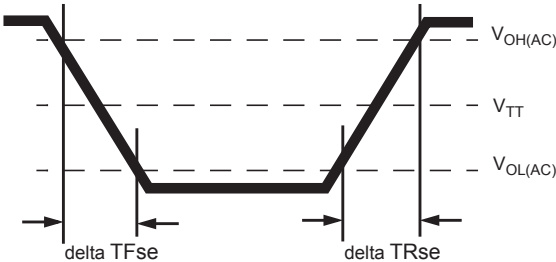

Figure 181 — Single-ended Output Slew Rate Definition
With the reference load for timing measurements, output slew rate for falling and rising edges is defined and measured between V_{OL}(AC) and V_{OH}(AC) for single ended signals as shown in Table 78 and Figure 181.